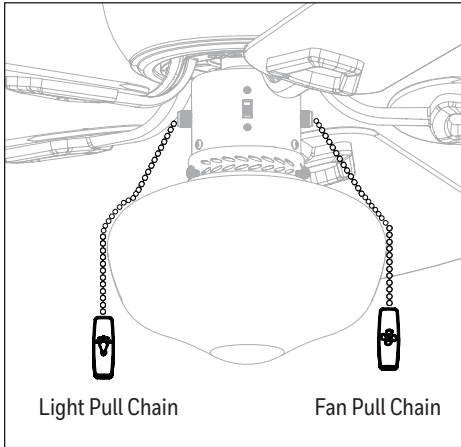

Figure 5.1
1. The fan pull chain has four positions to control fan speed. One pull is HIGH, two is MEDIUM, three is LOW and four turns the fan OFF. The light pull chain has two positions -- OFF and ON (Figure 5.1).